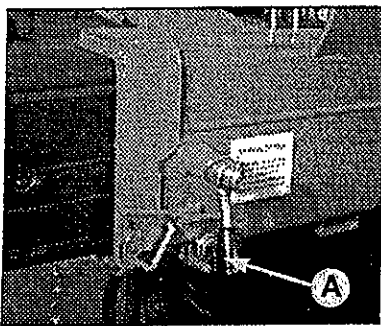

fig. 25
- When the respective seats appear, re-position the levers **A** and **A1** (fig. 25- 26) downwards; the spring loaded security pins, free to rotate respect of the levers, stay in the released position.